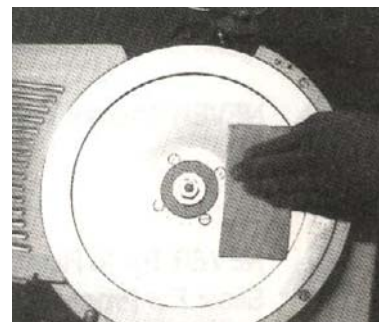

Fig. 12-2
8. The knife must also be cleaned. Carefully wash and rinse the top and bottom surface of the knife by wiping from the center of the knife outward as indicated in Fig.12-2.